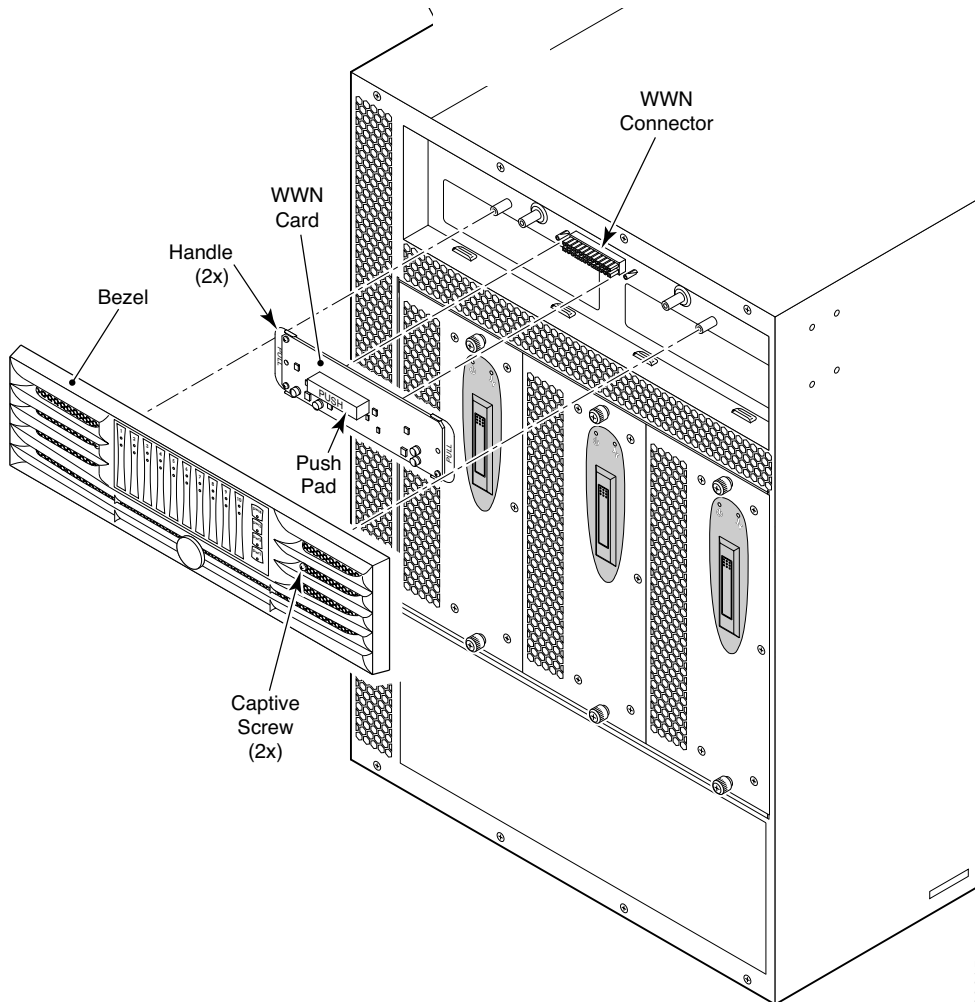

Figure 28 WWN bezel and card removal and replacement
Figure 28 shows the nonport side of the switch, which contains the WWN bezel and card.
4. Unscrew both captive screws on the WWN bezel (see Figure 28); then, pull the bezel away from chassis and set it aside.
5. Use the handles (see Figure 28) to *gently* pull the card away from the chassis.
2. Hold the card by the handles and orient it with the LEDs at the top (see Figure 28); then, align the connector on the card with the connector on the chassis (the connectors are keyed to ensure correct installation) and use the Push Pad to press the card onto the connector *gently*, until it is fully seated.
1. Orient the bezel on the chassis (see Figure 28); then, insert both retaining screws into the standoffs on the chassis and tighten to finger-tight.